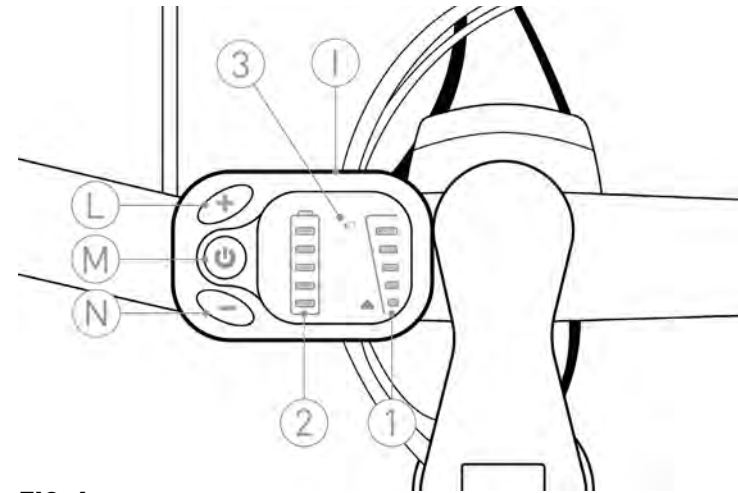

FIG. 6
The assistance system is controlled by the controller on the handlebar. In particular, the assistance is activated or deactivated using the on/off button (Ref. M - Figure 6). Once the system is activated, the management display itself is switched on (Ref. I - Figure 6), through which it is possible to see the activity status of the middle.
The power of the engine depends on the number of pedal strokes per minute, according to a multiplicative factor according to the selected level of assistance (Ref. 1 - Figure 6). The assistance drops linearly until it reaches 25 km/h. Once this speed is exceeded, the assistance is automatically deactivated.
This function allows you to move the bike more easily during manual movement in case it is short of small climbs. To activate the aforementioned mode, turn on the assistance system using the appropriate button (Ref. M - Figure 6). At this point, press and hold the "-" button (Ref. N - Figure 6).
- 1- Turn off the assistance system of the pedal-assisted bicycle using the appropriate button on the display (Ref. M – Figure 6);